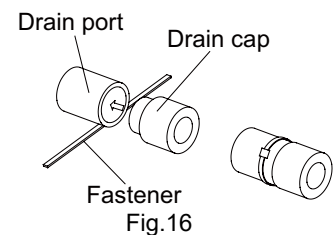

Fig.16
8. When using the drain port on the right side of the unit, reinstall the drain cap to the left side drain port.(Fig.16)